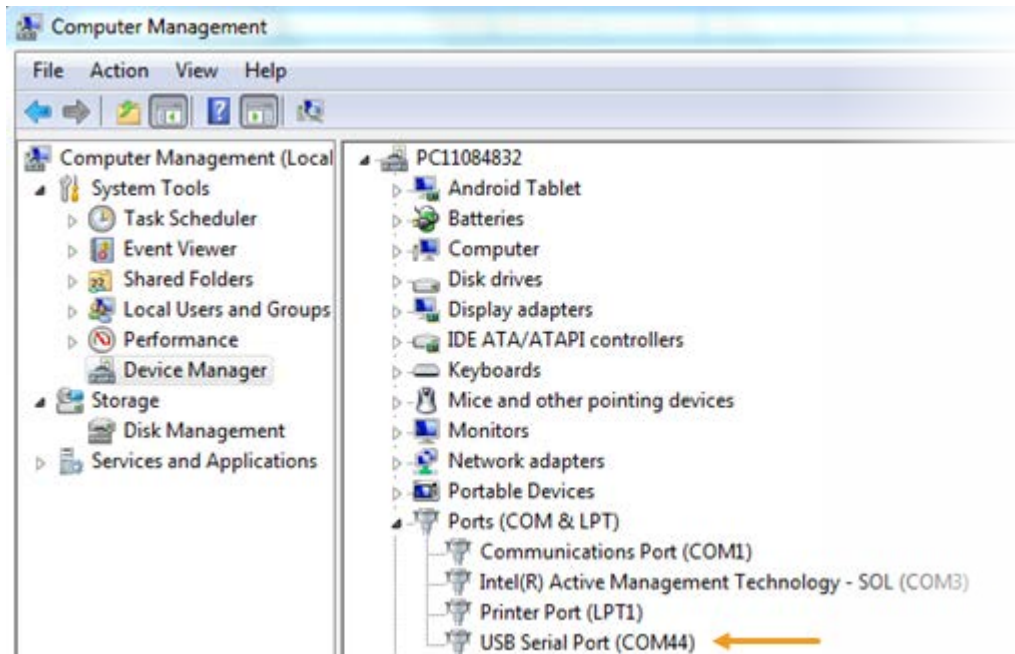

Figure 16. HDK in Device Manager
- 2) In Device Manager, navigate to **Ports (COM & LPT)** (see Figure 16. HDK in Device Manager).
- 4) A new COM device should appear under **Ports (COM & LPT)** in Device Manager, as shown in Figure 16. HDK in Device Manager. Note the COMx port number of the **USB Serial Port**, this information is needed to complete configuration of PuTTY.